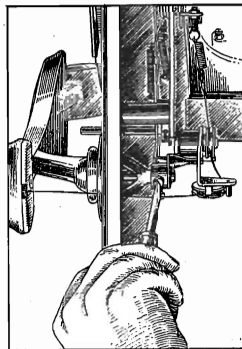

Figure 5—Adjusting position of tone arm
- (a) Improper Tone Arm Setting. Loosen the set screws as shown in Figure 5. With the mechanism out of its cycle, press the locating lever at a point near the flat spring until the lever strikes the stop screw. Holding the locating lever, Figure 17, in this position, move the front portion of the trip lever, Figure 15, until the pin against which the flat spring presses, is making contact with the locating lever. Holding the two levers in this position, move the pickup arm until the needle is  $\frac{1}{16}$ " from the first groove of a standard 10-inch record. Now retighten the two set screws shown in Figure 5.